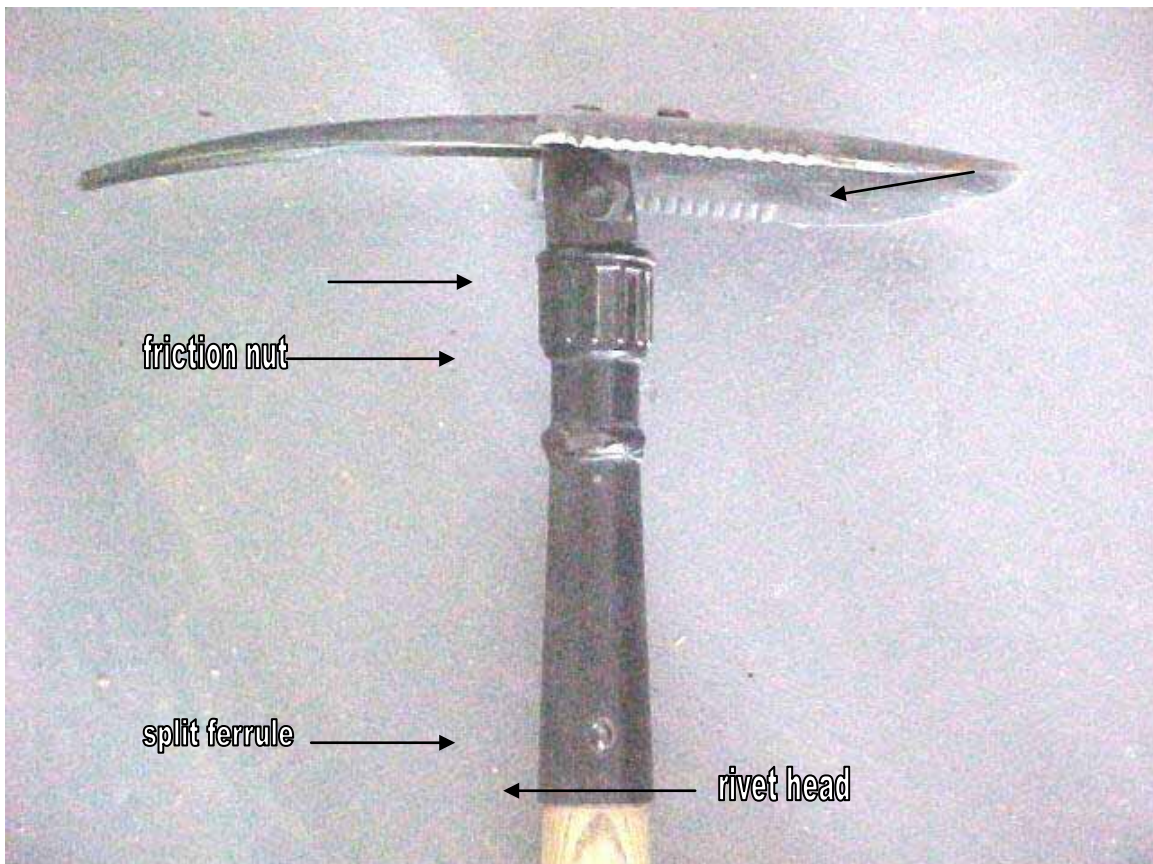

Figure 1- combi tool
2. Pick replacement: (see figure 1)
3. Hoe blade replacement: (see figure 1)
**H. Pictured (figures 1& 2) are two D.O.T approved shipping containers.**